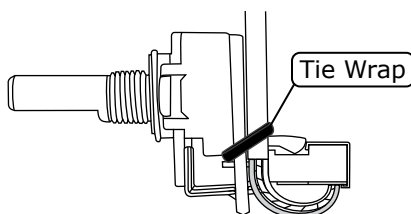

Figure 1
3. Install the wiring harness onto the rotary pot then secure the wiring to the rotary pot using the provided tie wrap (See Figure 1, below).